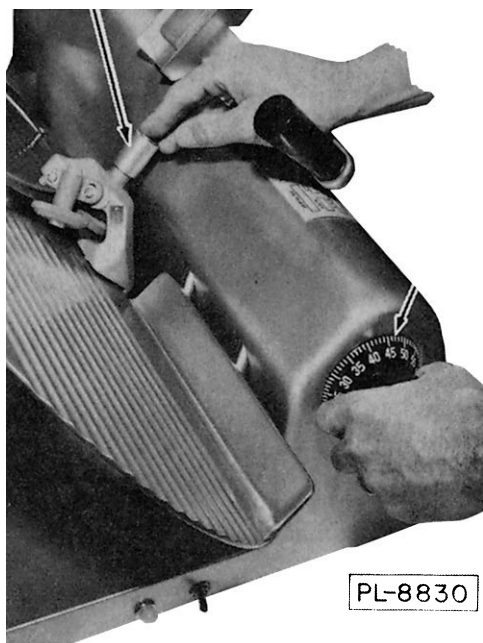

Fig. 7
- 7.6 Turn the slice adjusting knob (2, Fig. 7) slowly to the right. This will bring the grinding wheel into contact with the beveled side of the knife.
- 7.8 As soon as burr appears depress truing wheel by pressing on plunger (1, Fig. 7) with right hand as shown. Grind and true simultaneously for approximately 3 seconds.